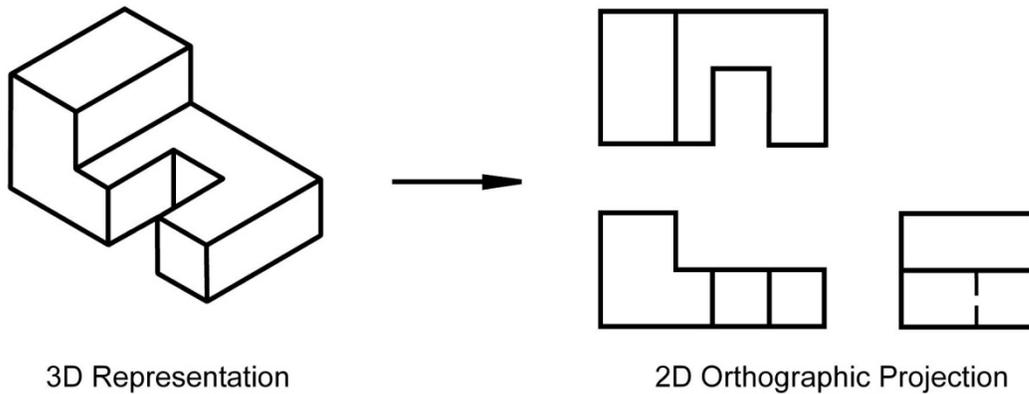

Figure 1-1: Orthographic projection.
**An orthographic projection enables us to represent a 3-D object in 2-D** (see Figure 1-1). An orthographic projection is a system of drawings that represent different sides of an object. These drawings are formed by projecting the edges of the object perpendicular to the desired planes of projection. Orthographic projections allow us to represent the shape of an object using 2 or more views. These views together with dimensions and notes are sufficient to manufacture the part.